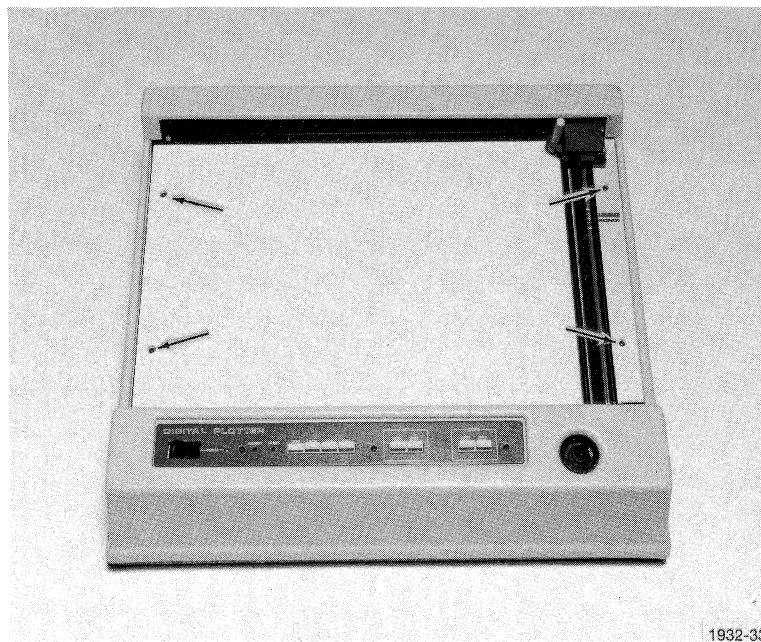

Fig. 4-3. Platen and trim strip attaching screws.
2. Remove the four allen-head screws that attach the platen and platen trim strip (Fig. 4-3).